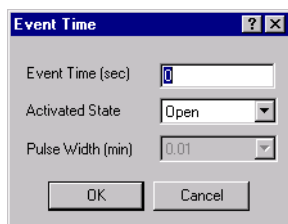

Figure 3-15 Specifying a Timed Event
- c. Click Add Time. The Event Time dialog box appears (Figure 3-15).